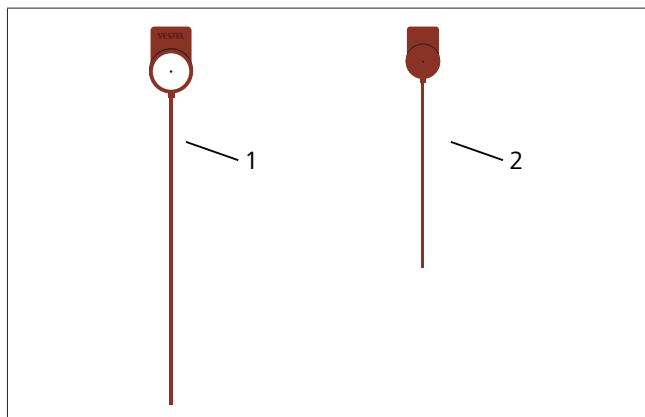

Fig. 46 Seals (front and back view)
- Two seals (see Fig. 46) are used for this purpose.